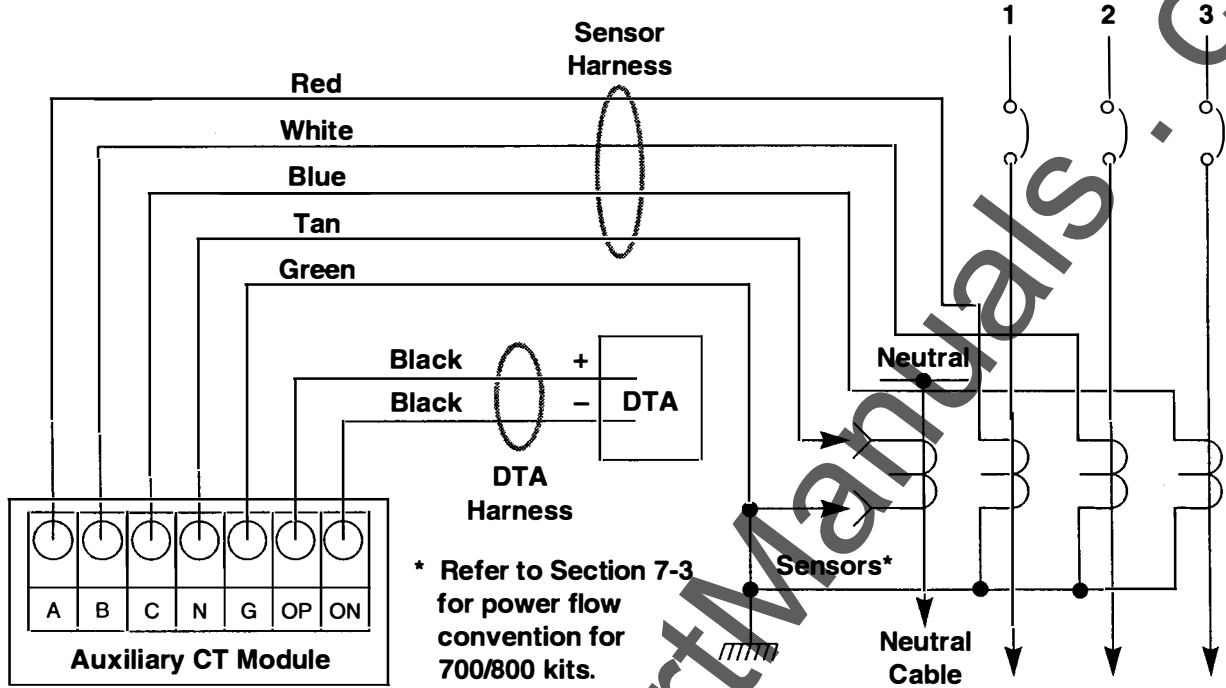

Figure 12-3 With Ground and With Neutral Sensor 3Ø 4-Wire (LIG, LSG, LSIG)
2. If the retrofit is for a 4-wire system (Figure 12-3 or 12-4) the green and tan wires provided for the fourth connection are required for connection to an open set of Breaker secondary contacts.